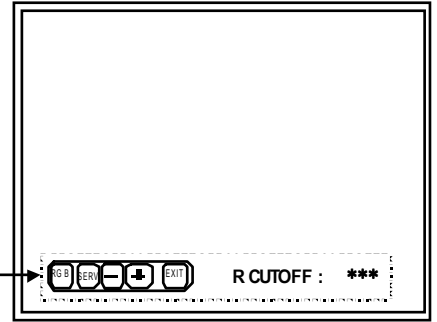

Fig.9
- ①In the WHITE BALANCE menu screen, press the **CHROMA/PHASE** key to enter to the CUTOFF adjustment mode (Fig. 9). In this case, keyfunction is replaced as shown below.
- ②Whenever press the **CHROMA/PHASE** key, change the adjustment colour of R, G and B.